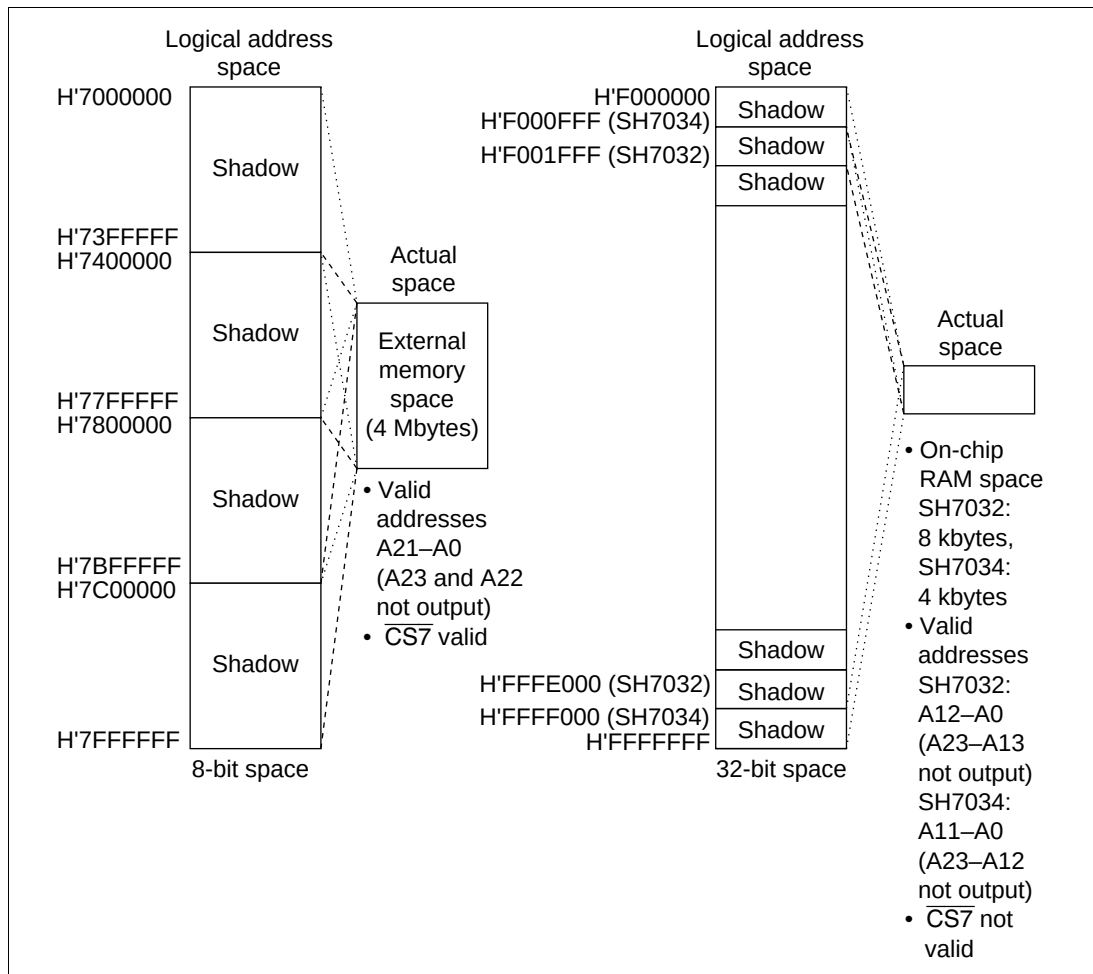

**Figure 8.10 Memory Map of Area 7**
**Area 7:** Area 7 is an area with address bits A26–A24 set to 111 and an address range of H'7000000–H'7FFFFFFF and H'F000000–H'FFFFFFF. Figure 8.10 shows a memory map of area 7.